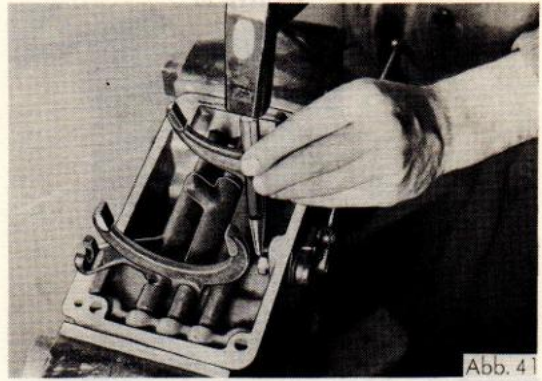

Abb. 41
32. After adjusting, tighten nut on ratchet spindle and secure with centre punch (Fig.41).